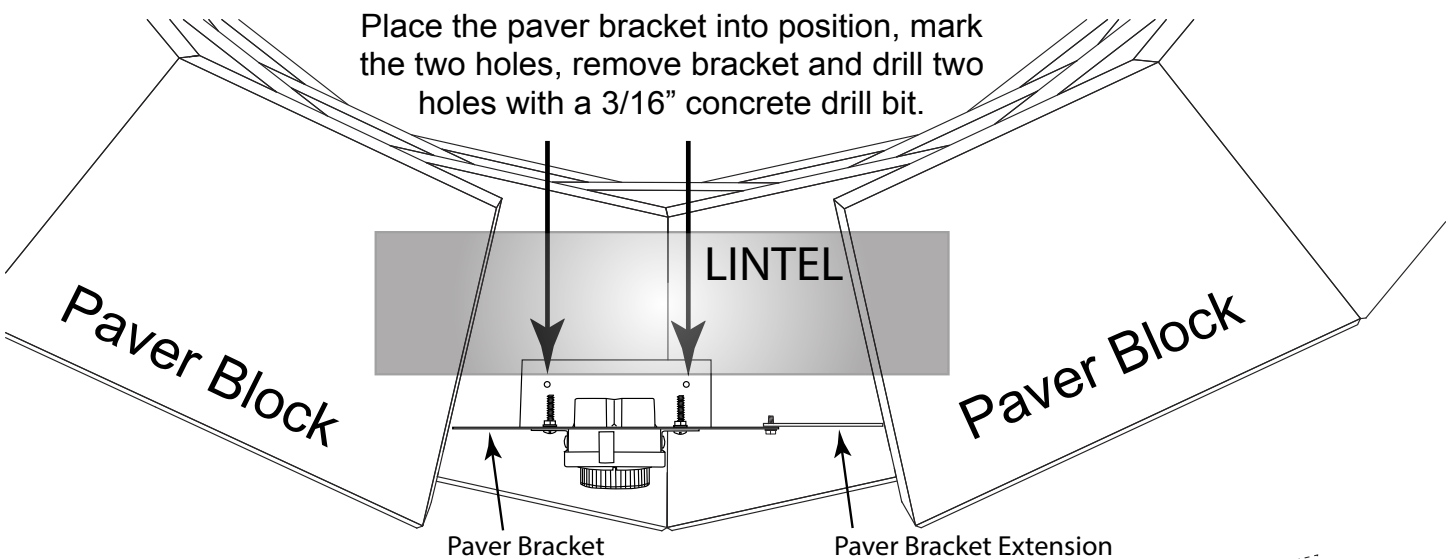

Fig. 5 Shows mounting paver bracket into place on paver block.
The paver bracket extension installs behind the paver bracket lip and is secured with the two hex head $\frac{5}{16}$ " screws; one screw at top and one on the bottom. See Figs. 5 and 6. It is used to fill the gap next to the paver bracket for a complete finished look. In some applications the extension is not needed and can be discarded.
Place the lintel across back side of the paver block after you have secured the paver bracket to support your next row of blocks. See the shaded area in Fig. 5 showing the placement of the lintel. Securing the lintel with some type of adhesive is optional.
Step 5: The paver bracket extension can be used to extend the bracket from 8 inches wide up to $11\frac{3}{4}$ " wide if necessary. The holes in the bracket extension allow for $\frac{1}{2}$ " increments for width adjustment. Figs. 5 and 6 show the extension in the properly oriented position. If the extension bracket mounts behind the paver bracket with two $\frac{5}{16}$ " hex screws. If it is too wide, there are perforated areas that allow you to bend and break off if the entire width is not needed.